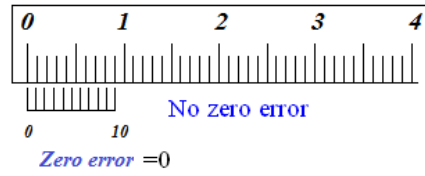

Fig.2a
B. Checking of Zero error: Coincide the two jaws of Vernier calipers. If the zero of the Vernier scale coincides with the zero of the main scale then zero error in the Vernier calipers is zero. If it is not so then the instrument has a zero error. If zero of Vernier scale stays on right hand side of main scale zero then there is positive zero error. And if zero of Vernier scale goes to left hand side of main scale zero then there is negative zero error. Positive error is subtracted with measured length/diameter to find the correct length/diameter while negative error is added to measured length/diameter to find the correct length/diameter (see fig.2a, 2b and 2c).